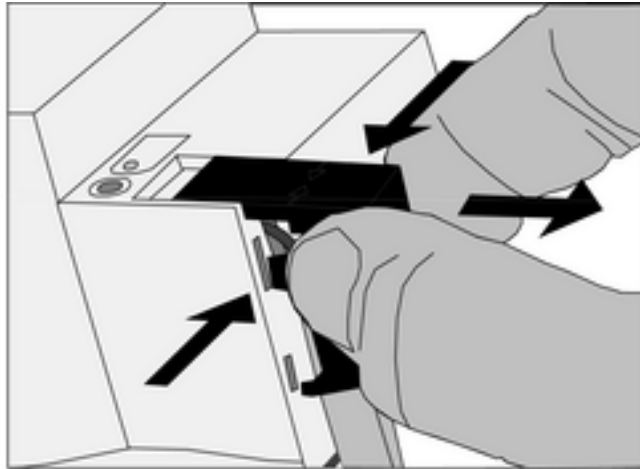

Figure 5: Removing the cover
- Press the cover to the side and pull it off (Figure 5).